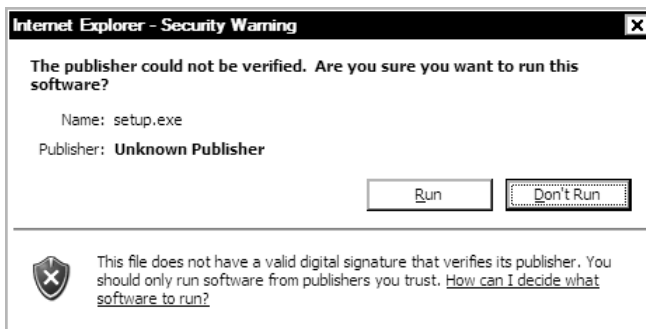

Figure 2-1. Cygwin security warning dialog
3. Run `setup.exe`. Use Explorer to go to the folder `c:\temp\cygwin-install\setup.exe`. Depending on the paranoia setting of Windows, a message may appear indicating that it isn't a signed program (see Figure 2-1). You can ignore this warning.